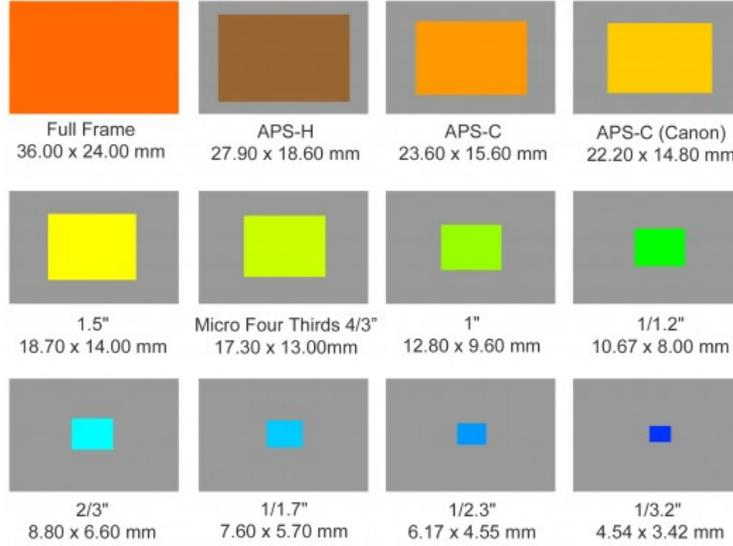

Figure 1: camera sensor size
1. Camera sensor format is the shape and size of the image sensor, for example, 4/3" size is 17.3mm*13mm; 2/2" size is 8.8mm*6.6mm. As figure 1 shows.
3. Entrance pupil(EP) and exit pupil (XP) are the images of the stop in object space and image space. The aperture stop is the aperture in the system that limits the bundle of light that propagates through the system from the axial object point.